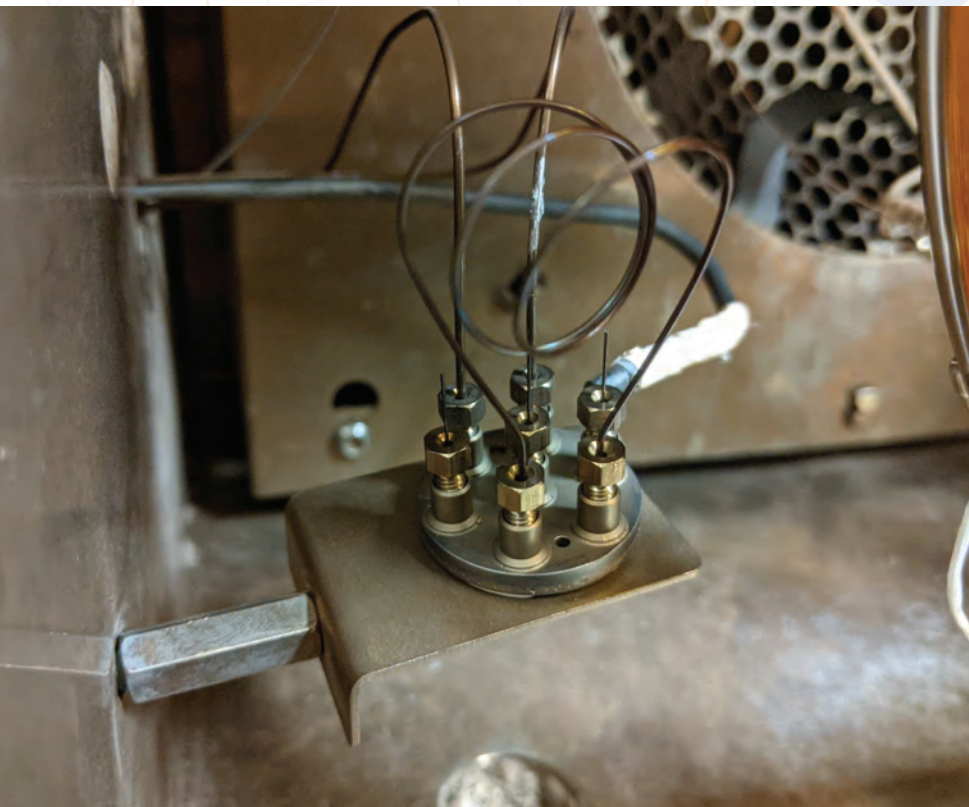

Figure 1. Examples of commercially available modulators
is not always the best combination. One then needs to choose the modulator. In the early days, the choices were rather limited, as cryogenic modulators were the only ones commercially available. The picture is definitely more complicated these days (4). Though cryogenic modulators still dominate, they now face serious competition from thermal and (in particular) various flow modulation platforms (see Figure 1 for selected examples). Each modulator type has its strengths and weaknesses, but none can claim that it is definitely the best for all applications.